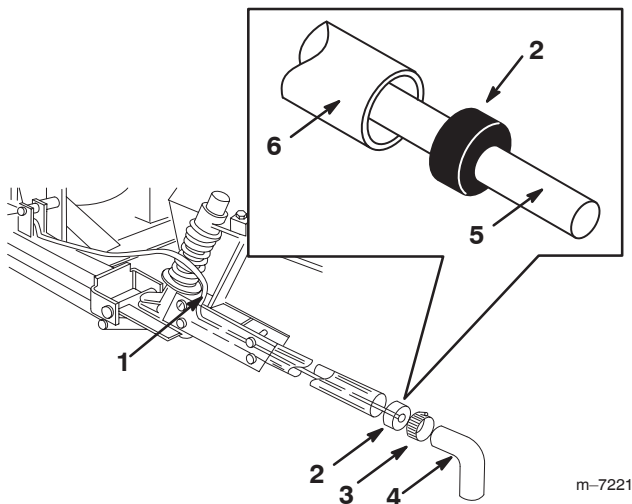

Figure 32
6. Insert the boom hose into the hole drilled in the right boom pipe and push it into the boom pipe until **2 to 3 inches** of boom hose **extends beyond** the opposite end of the boom pipe (Fig. 32).
7. Push the boom hose through the punched hole boom cap until it **extends 2 to 3 inches past the cap** (Fig. 32).
8. Install the boom cap into the end of the boom pipe (Fig. 32).
9. Lubricate the inside of the extension hose and slide it over the cap and boom hose and onto the boom pipe (Fig. 32).
10. Secure the extension hose onto the boom pipe with a large hose clamp (Fig. 32).